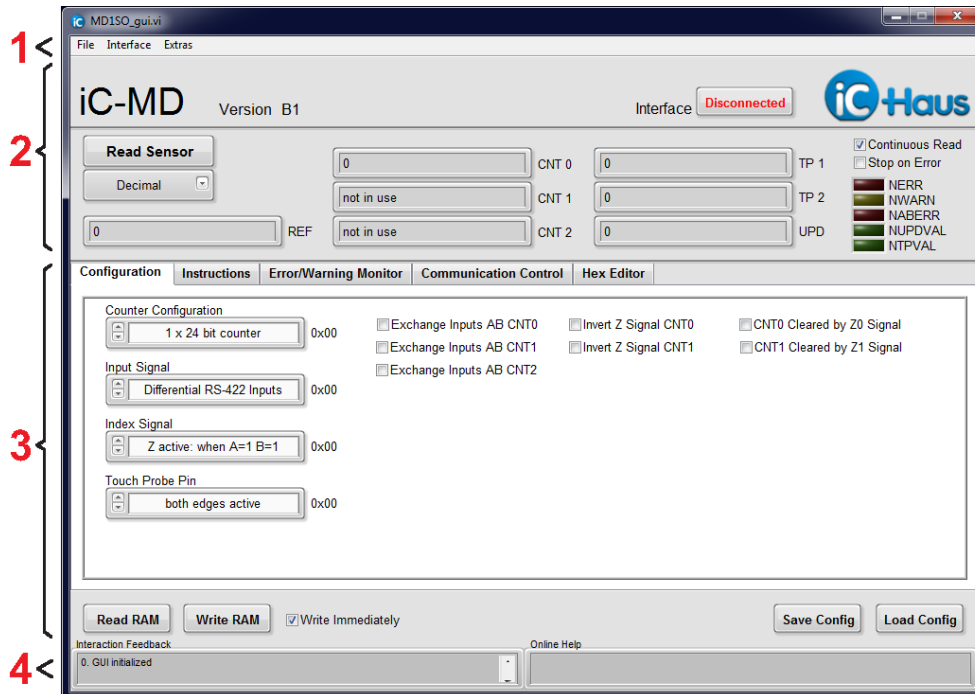

Figure 3: GUI start-up window
3. Installation will make the software "MD1SO_gui_xx.exe" available in the selected working directory. The execution of this file will start the software. Figure 3 shows a screenshot of the start up window.